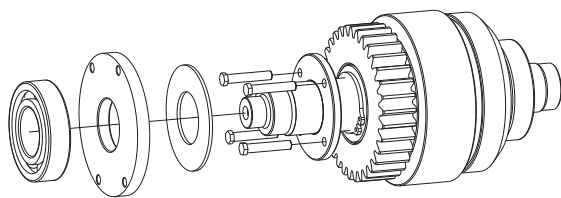

Figure 5 – Output Shaft Component's Removal
7. Using a bearing puller, remove the rear bearing (1) by grabbing the drag brake plate (2) and removing both pieces. The bronze disk (3) can be removed. *See Figure 5*
8. Insert four 1/4 – 20 capscrews into the drag brake rotor (4) until they just touch the back of the bell gear. Using an "X" pattern screw the capscrews in at 1/4 turn intervals until the brake rotor is free of the output shaft (10). *See Figure 5*